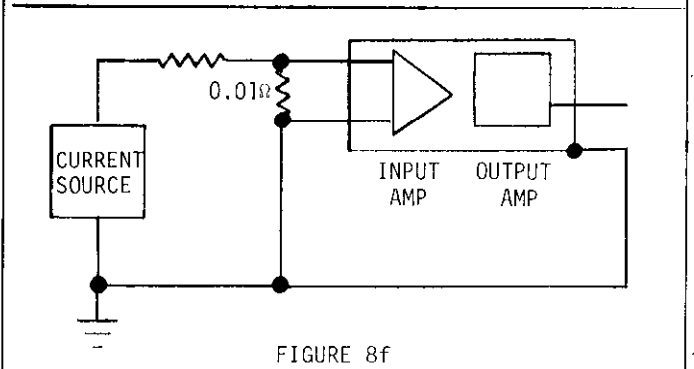

FIGURE 8f
3. Low-resistance "Lindeck" measurements. As in the above situations, the Model 180 has a definite advantage in speed and convenience over potentiometer systems which have traditionally been used to do this type of measurement. The problem with low resistance measurements has been the trade-off between power level and available sensitivity. In a circuit such as Figure 8f, a current of only 100mA may be used with the 180 on the 1mV range, providing .01% resolution. A 1µV DVM would require 1 Amp to provide the same resolution. Potentiometers would provide an equally sensitive measurement of such a low resistance, but not with the speed and convenience of the 180 on the 1mV range. On the .1mV range, the 180 may be used in this circuit to measure resistances of 1 milliohm with .05% accuracy, still using the 100mA from the current source.